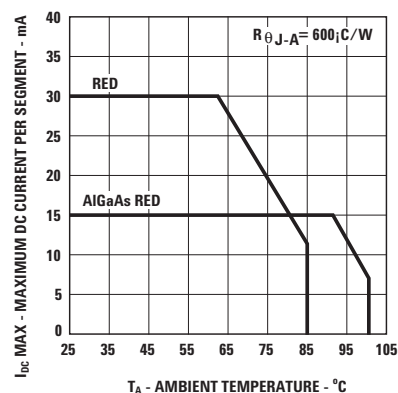

Figure 3. Maximum Allowable DC Current vs. Ambient Temperature.
5. Derate maximum DC current for Red above $T_A = 62^\circ\text{C}$ at 0.79 mA/°C, and AlGaAs Red above $T_A = 91^\circ\text{C}$ at 0.8 mA/°C. See Figure 3.